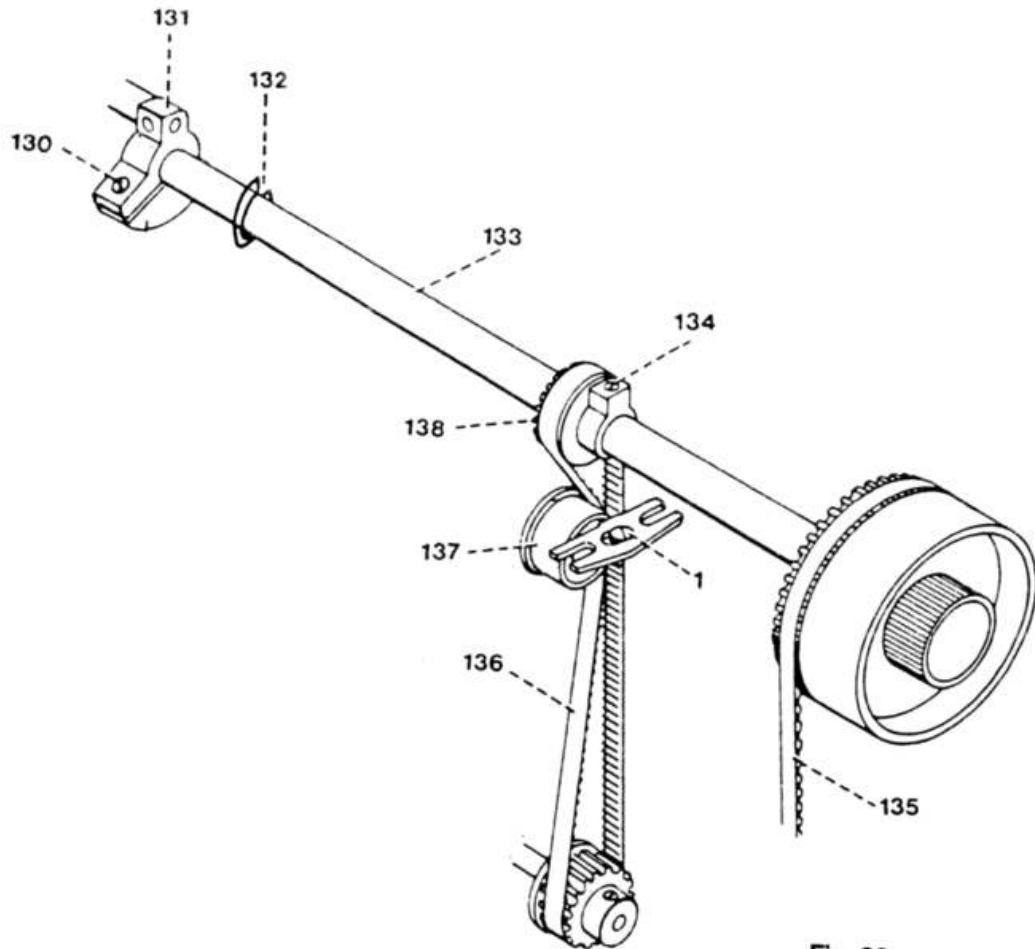

Fig. 26a
- Loosen screw 130 in arm shaft crank 131 (fig. 26a).